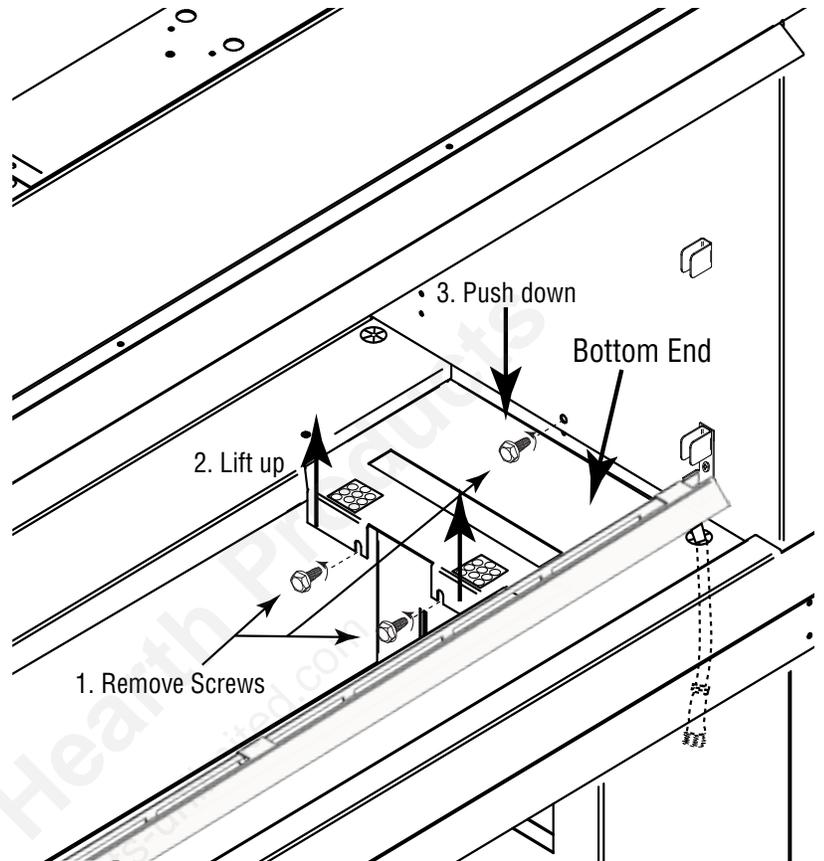

Figure 23 - Removing bottom end
Step 7: Remove the (3) screws from the “bottom end” of the burner pan area. The bottom end part fills the space between the burner pan and the fireplace side panel. It is held into place with three (3) screws. See **Figure 23**.